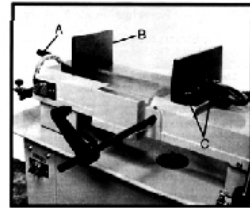

Fig. 7
1. Remove bolt assemblies (C, Fig. 7)
2. Position vise and re-install bolt assemblies as pictured in Fig 7.